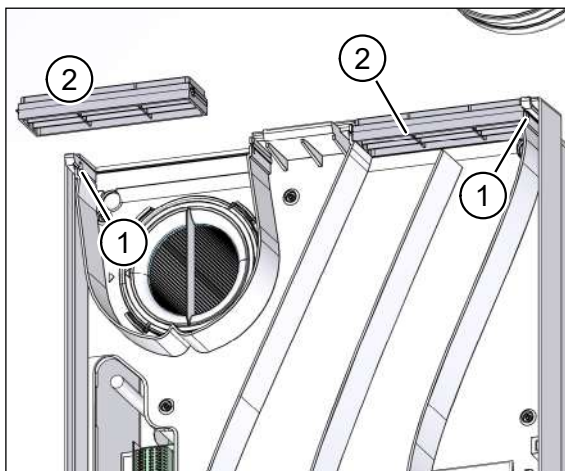

Fig. 45: Removing the air grilles
- ▶ Carefully push the two tabs (item 1 in Fig. 45) outwards and pull the two air grilles (item 2 in Fig. 45) forward and out.
- ▶ Remove the air grilles (see description and Fig. 45 in section 11.6.4 on page 39).